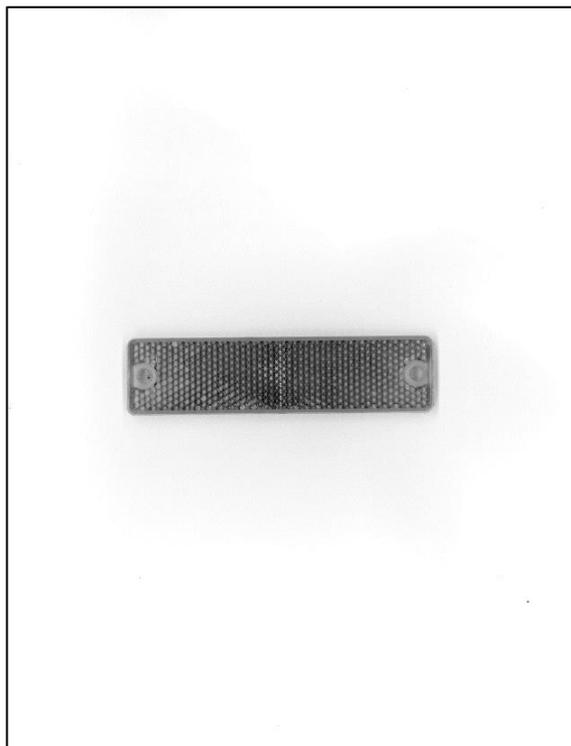

Figure 2
4. Compare the size of the picture on the copy with the reflector Figure 2. If the scale on the picture matches with the reflector, you can use the copy as template to position the mounting holes on the door panel.